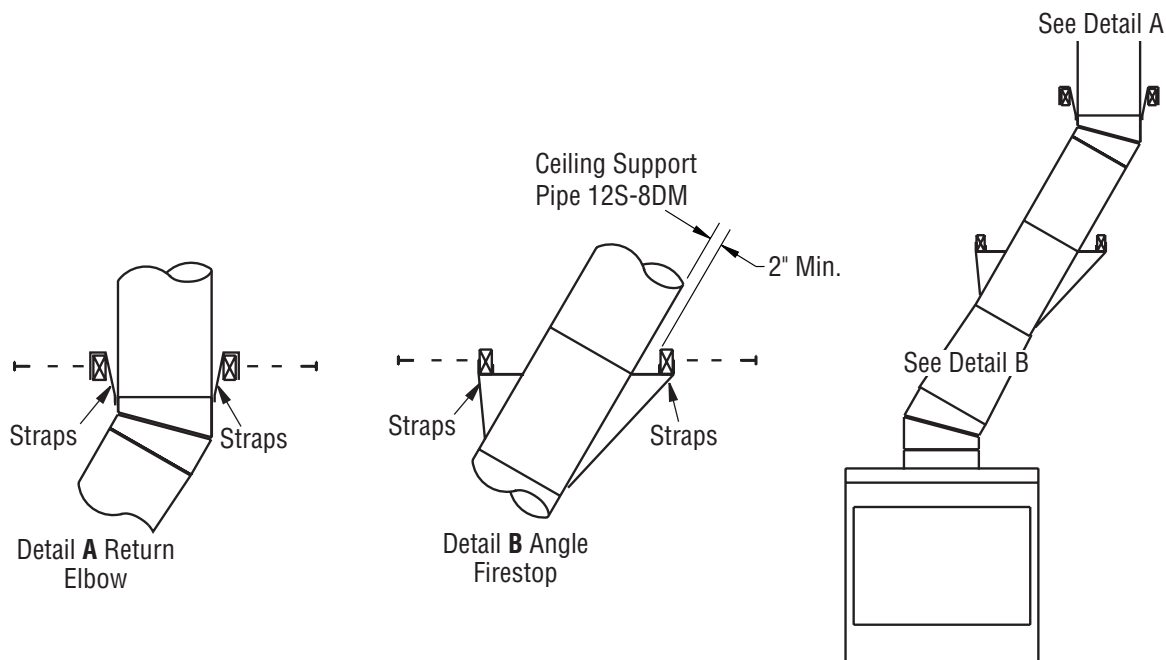

Figure 11 - Ceiling Support Pipe 12S-8DM
2. Chimney weight above offset rests on return elbow. Straps must be securely nailed to rafters or joists (see Figure 11, details A and B, page 9).